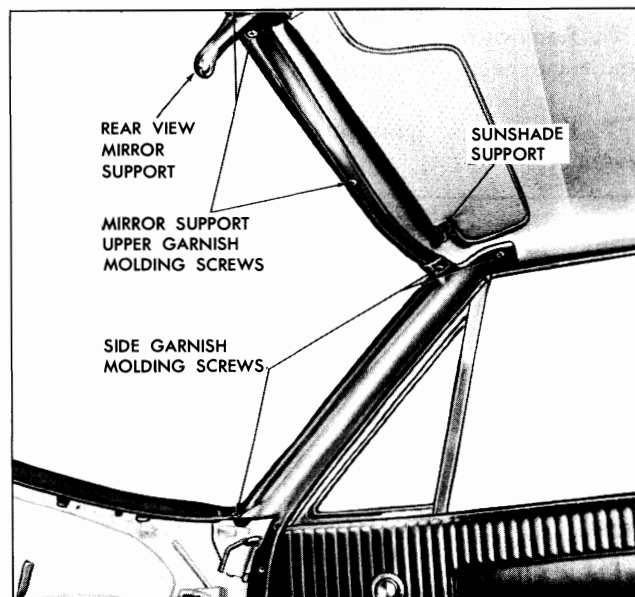

Fig. 2-1 Windshield Garnish Moldings
3. To install, reverse removal procedure (Figs. 2-1 and 2-2).